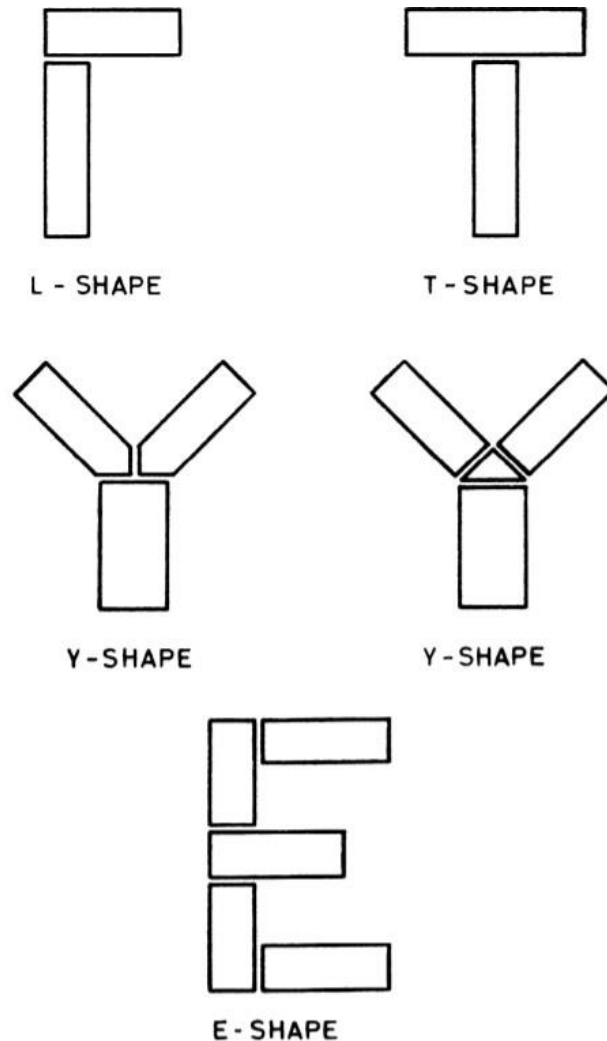

FIG. 1 TYPICAL SHAPES OF BUILDING WITH SEPARATION SECTIONS
3. Buildings having plans with shapes like, L, T, E and Y shall preferably be separated into rectangular parts by providing separation sections at appropriate places. Typical examples are shown in Fig. 1.